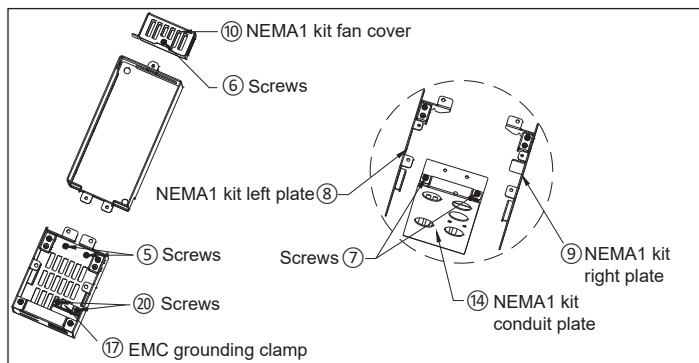

Figure 2. Removing the NEMA 1 front cover, conduit box, fan cover, and left & right plate.
Remove the two screws ⑤ and disassemble the conduit box (see Figure 2).
Remove the two screws ⑥ and disassemble the NEMA 1 kit fan cover ⑩ (see Figure 2).
Remove the two screws ⑳ and disassemble the EMC grounding clamp ⑰ (Figure 2)
Remove the two screws ⑦ and disassemble the NEMA 1 kit left plate ⑧ and NEMA 1 kit right plate ⑨ (see Figure 2).